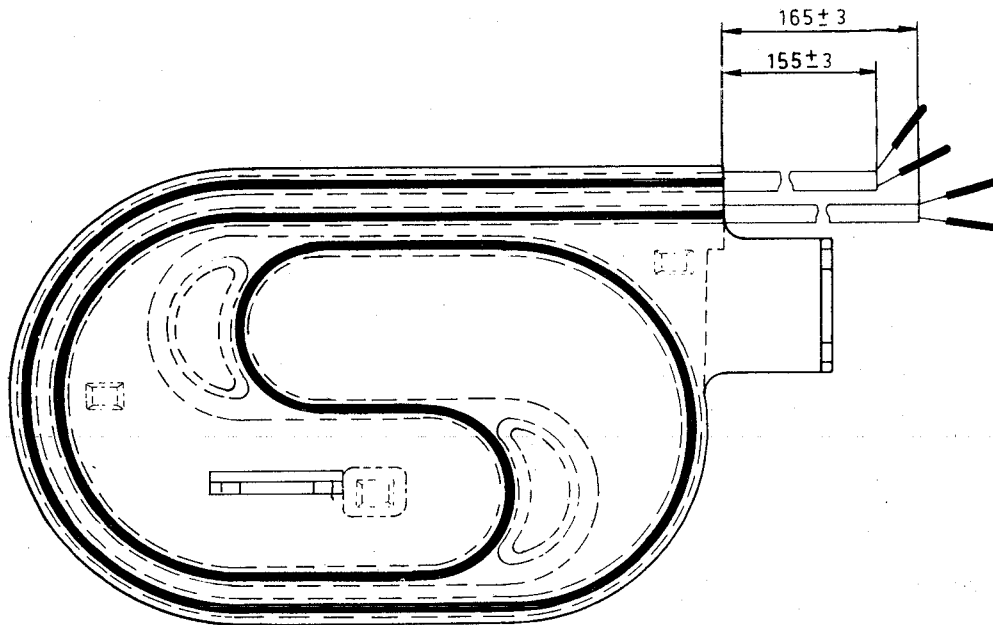

Fig. 6.11.
- Before mounting it must be checked, that the new delay line is placed in its housing like shown in Fig. 6.11.